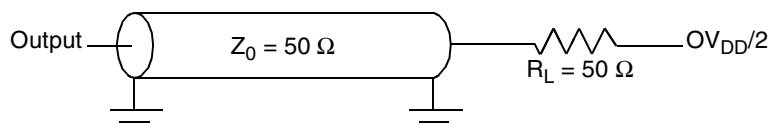
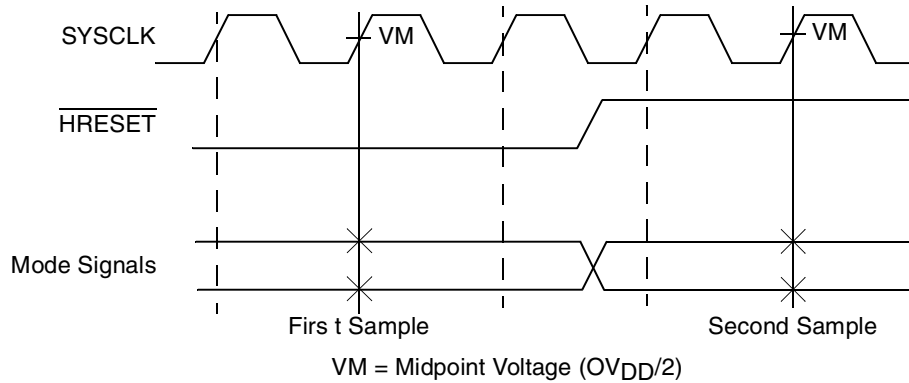
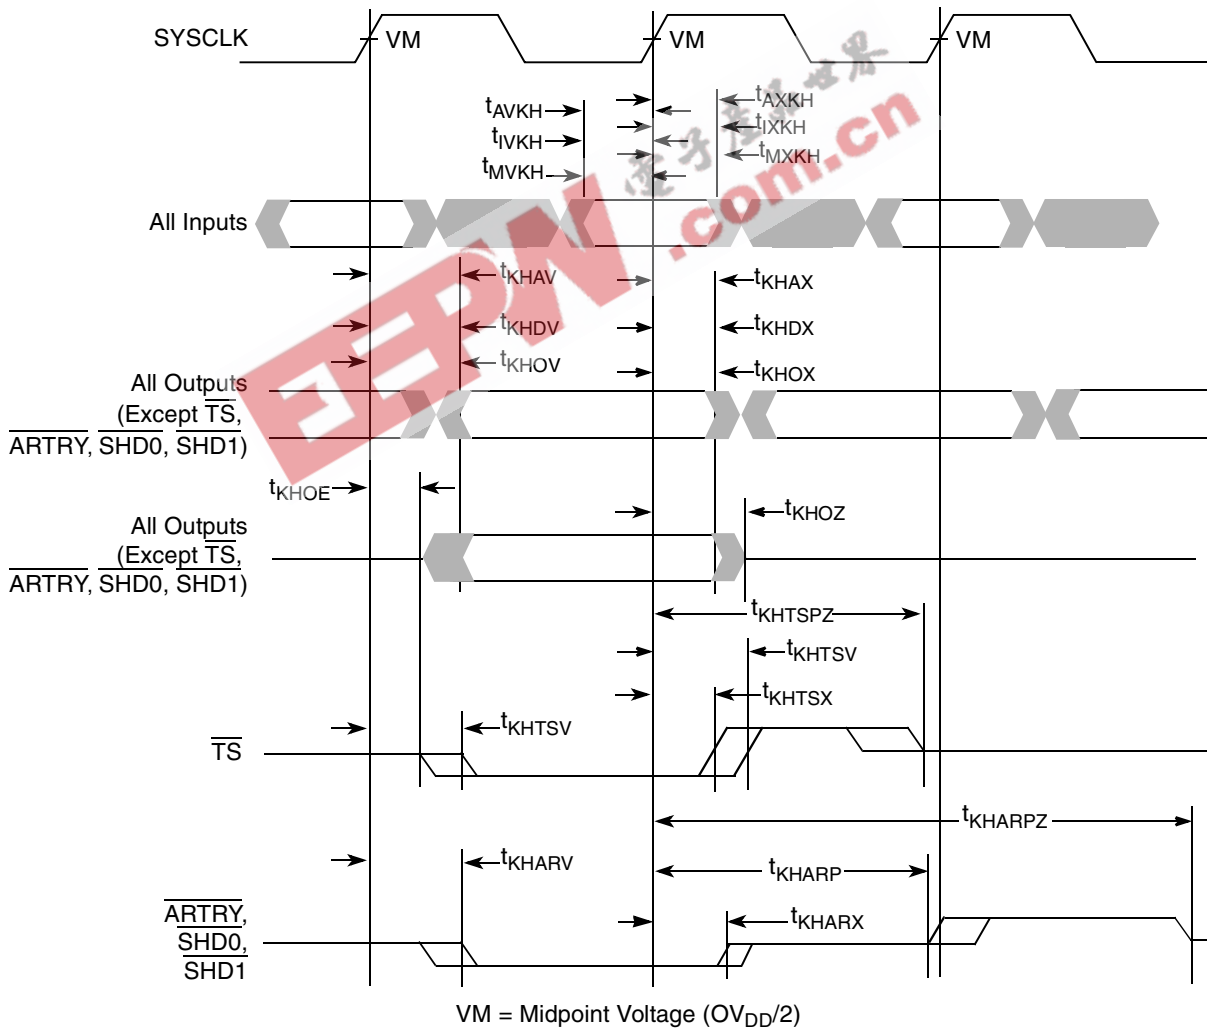

Figure 4. AC Test Load
Figure 5. Mode Input Timing Diagram
Figure 6. Input/Output Timing Diagram
Table 9 provides the processor bus AC timing specifications for the MPC7455 as defined in Figure 4 and Figure 5. Timing specifications for the L3 bus are provided in Section 5.2.3, “L3 Clock AC Specifications.”
1. All input specifications are measured from the midpoint of the signal in question to the midpoint of the rising edge of the input SYSCLK. All output specifications are measured from the midpoint of the rising edge of SYSCLK to the midpoint of the signal in question. All output timings assume a purely resistive 50-Ω load (see Figure 4). Input and output timings are measured at the pin; time-of-flight delays must be added for trace lengths, vias, and connectors in the system.
2. The symbology used for timing specifications herein follows the pattern of t_{(signal)(state)(reference)(state)} for inputs and t_{(reference)(state)(signal)(state)} for outputs. For example, t_{IVKH} symbolizes the time input signals (I) reach the valid state (V) relative to the SYSCLK reference (K) going to the high (H) state or input setup time. And t_{KHOV} symbolizes the time from SYSCLK(K) going high (H) until outputs (O) are valid (V) or output valid time. Input hold time can be read as the time that the input signal (I) went invalid (X) with respect to the rising clock edge (KH) (note the position of the reference and its state for inputs) and output hold time can be read as the time from the rising edge (KH) until the output went invalid (OX).
4. According to the bus protocol, \overline{TS} is driven only by the currently active bus master. It is asserted low then precharged high before returning to high impedance as shown in Figure 6. The nominal precharge width for \overline{TS} is $0.5 \times t_{SYSCLK}$, that is, less than the minimum t_{SYSCLK} period, to ensure that another master asserting \overline{TS} on the following clock will not contend with the precharge. Output valid and output hold timing is tested for the signal asserted. Output valid time is tested for precharge. The high-impedance behavior is guaranteed by design.
6. According to the bus protocol, ARTRY can be driven by multiple bus masters through the clock period immediately following AACK. Bus contention is not an issue because any master asserting ARTRY will be driving it low. Any master asserting it low in the first clock following AACK will then go to high impedance for one clock before precharging it high during the second cycle after the assertion of AACK. The nominal precharge width for ARTRY is 1.0 t_{SYSCLK}; that is, it should be high impedance as shown in Figure 6 before the first opportunity for another master to assert ARTRY. Output valid and output hold timing is tested for the signal asserted. The high-impedance behavior is guaranteed by design.
8. BMODE[0:1] and BVSEL are mode select inputs and are sampled before and after HRESET negation. These parameters represent the input setup and hold times for each sample. These values are guaranteed by design and not tested. These inputs must remain stable after the second sample. See Figure 5 for sample timing.
Figure 4 provides the AC test load for the MPC7455.
Figure 5 provides the mode select input timing diagram for the MPC7455.
Figure 6 provides the input/output timing diagram for the MPC7455.